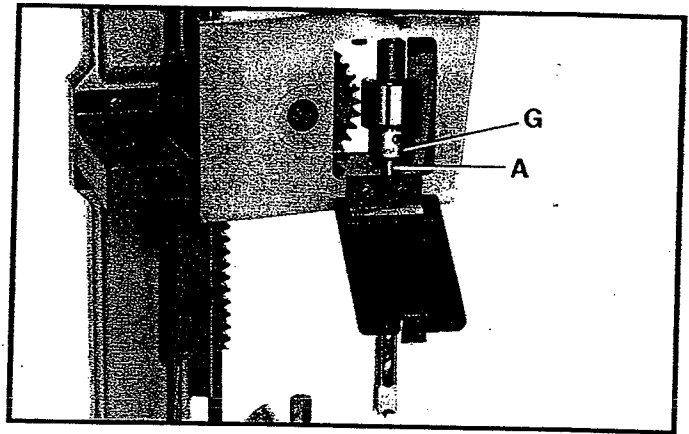

Fig. 23
4. Push bit (A) Fig. 23, up through chisel and into chuck (G) as far as it will go and lock bit in chuck using chuck key supplied.